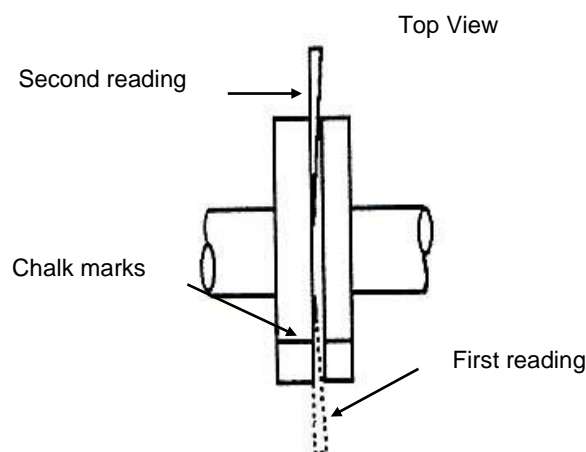

FIG 37.
- Measure the distance on both sides, between the front faces of the couplings with a taper gauge. (Fig 37) Align the chalk marks.